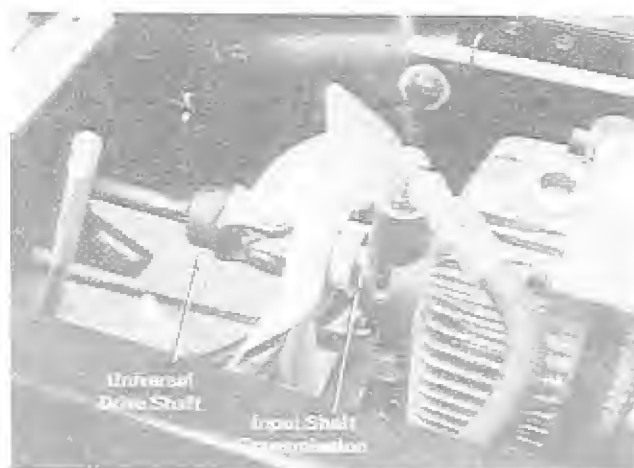

FIGURE 28.
2. Slide the drive shaft assembly forward as far as it will go and the rear universal joint can be removed from the input shaft of the hydrostatic transmission. See figure 28.